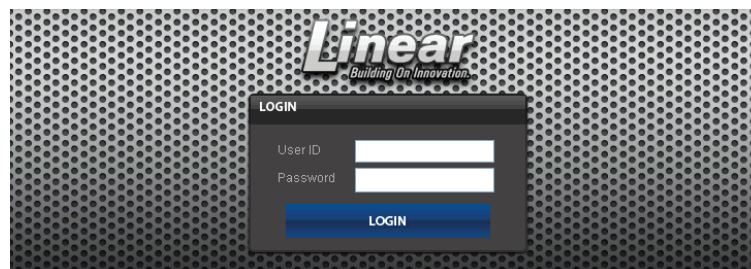

Figure 7.2. Login Page
4. The controller presents the e3 page as shown in Figure 7.2. To log on, enter the default user ID and password (admin/admin).